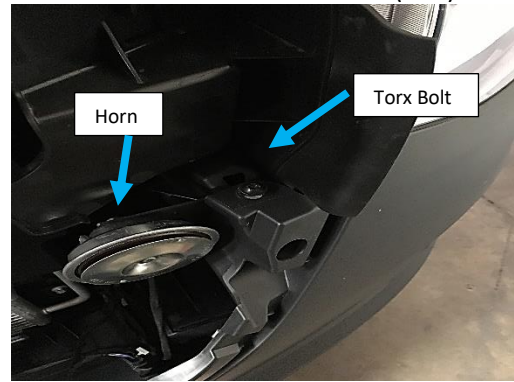

Figure 4: Torx Bolts Near Top of Stock Bumper
4. Remove the two (2) torx bolts near the top of the stock bumper seen with the grille removed. Reference Figure 4.
10. Remove the horn (seen in Figure 4).